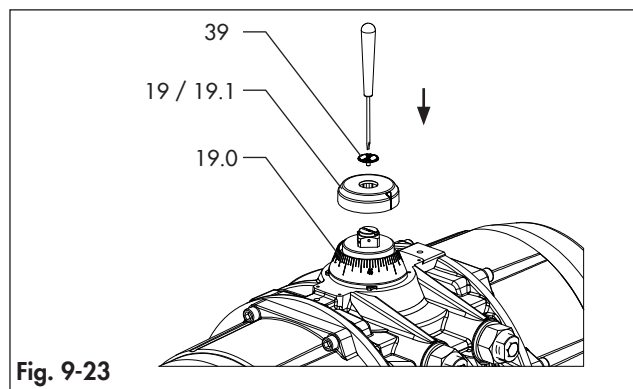

Fig. 9-23
Refer to Fig. 9-1 and Fig. 9-23.
- Fasten the indicator screw (39), if any. (Fig. 9-23)